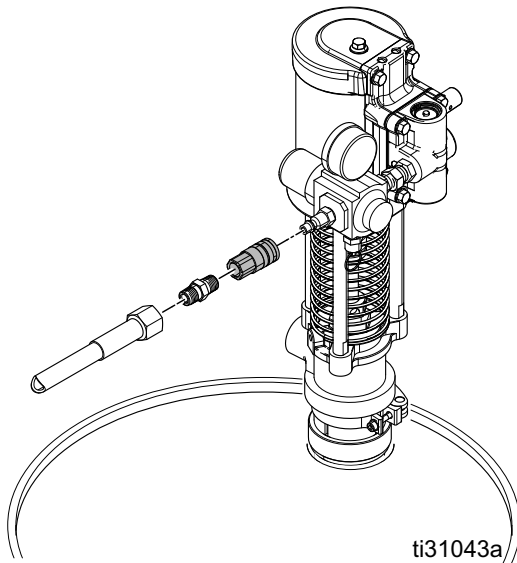

FIG. 10
7. Install air line (3/8 in. (9.5 mm) ID minimum) with quick disconnect air coupler provided. See FIG. 10.